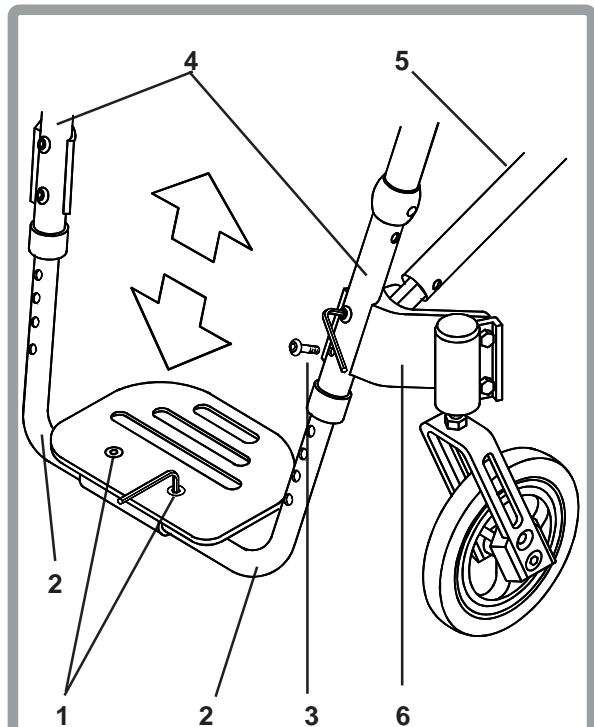

Fig. 25
To adjust the footplate height (Fig. 25) loosen the two footplate screws (1), sufficiently to allow the tubes (2) to slide in or out of the footplate. (Use a 5mm Allen key). Remove both screws (3), using a 4mm Allen key, and move the tubes up or down to the required position, carefully aligning the holes on the tubes with the holes in the frame (4). Replace both screws and tighten to 7-12Nm torque.